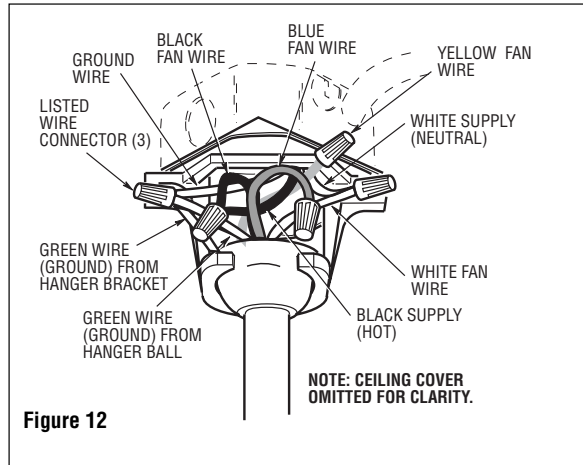

Figure 12
2. Securely connect the fan motor white wire to the supply white (neutral) wire using wire connector supplied (Figure 12). Securely connect the fan motor black wire to the supply black (hot) wire using wire connector supplied (Figure 12).